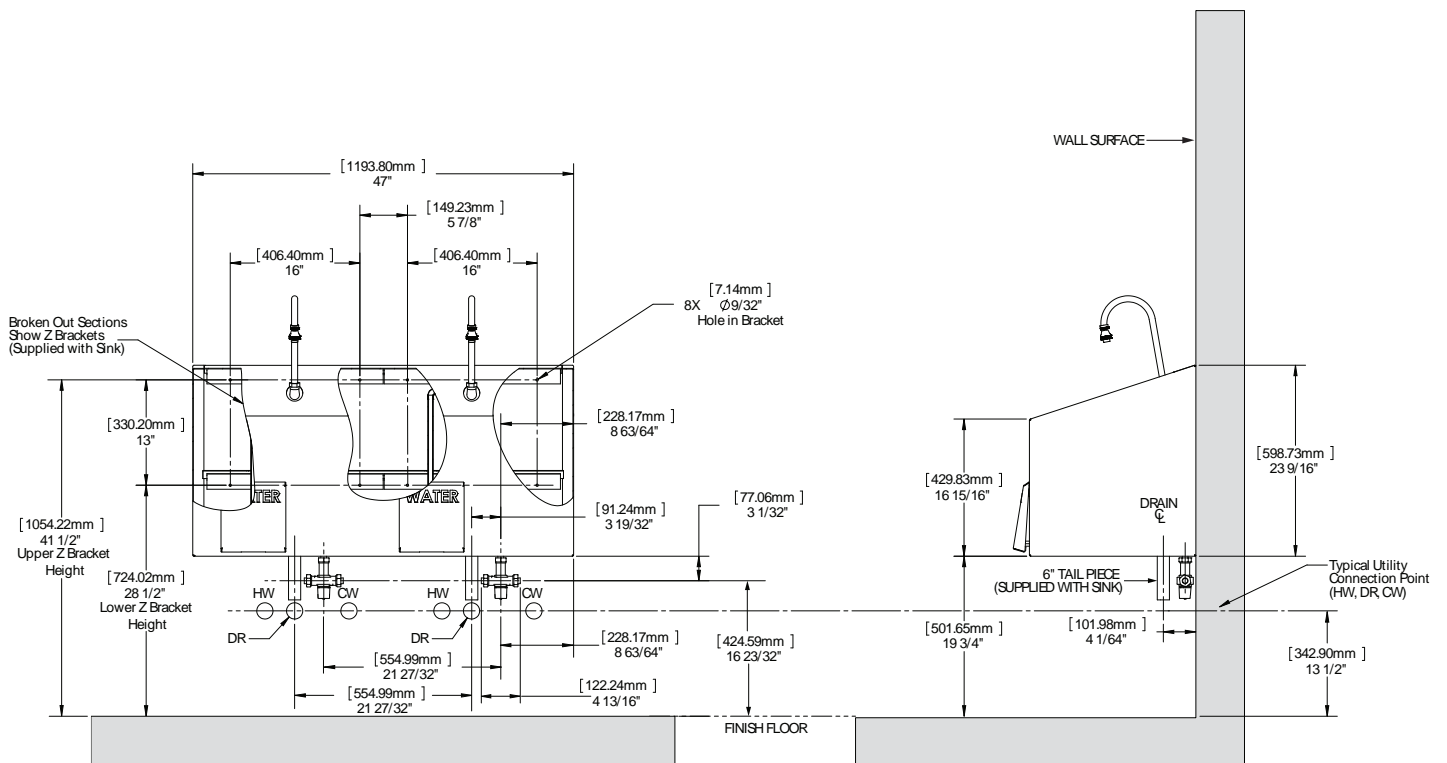

Fig. 6: Z brackets on sink
- A. With the help of an assistant, slide the sink over the "Z" bracket(s) until it locks securely into place (Fig. 5 - Fig. 6, Z brackets shown in green).